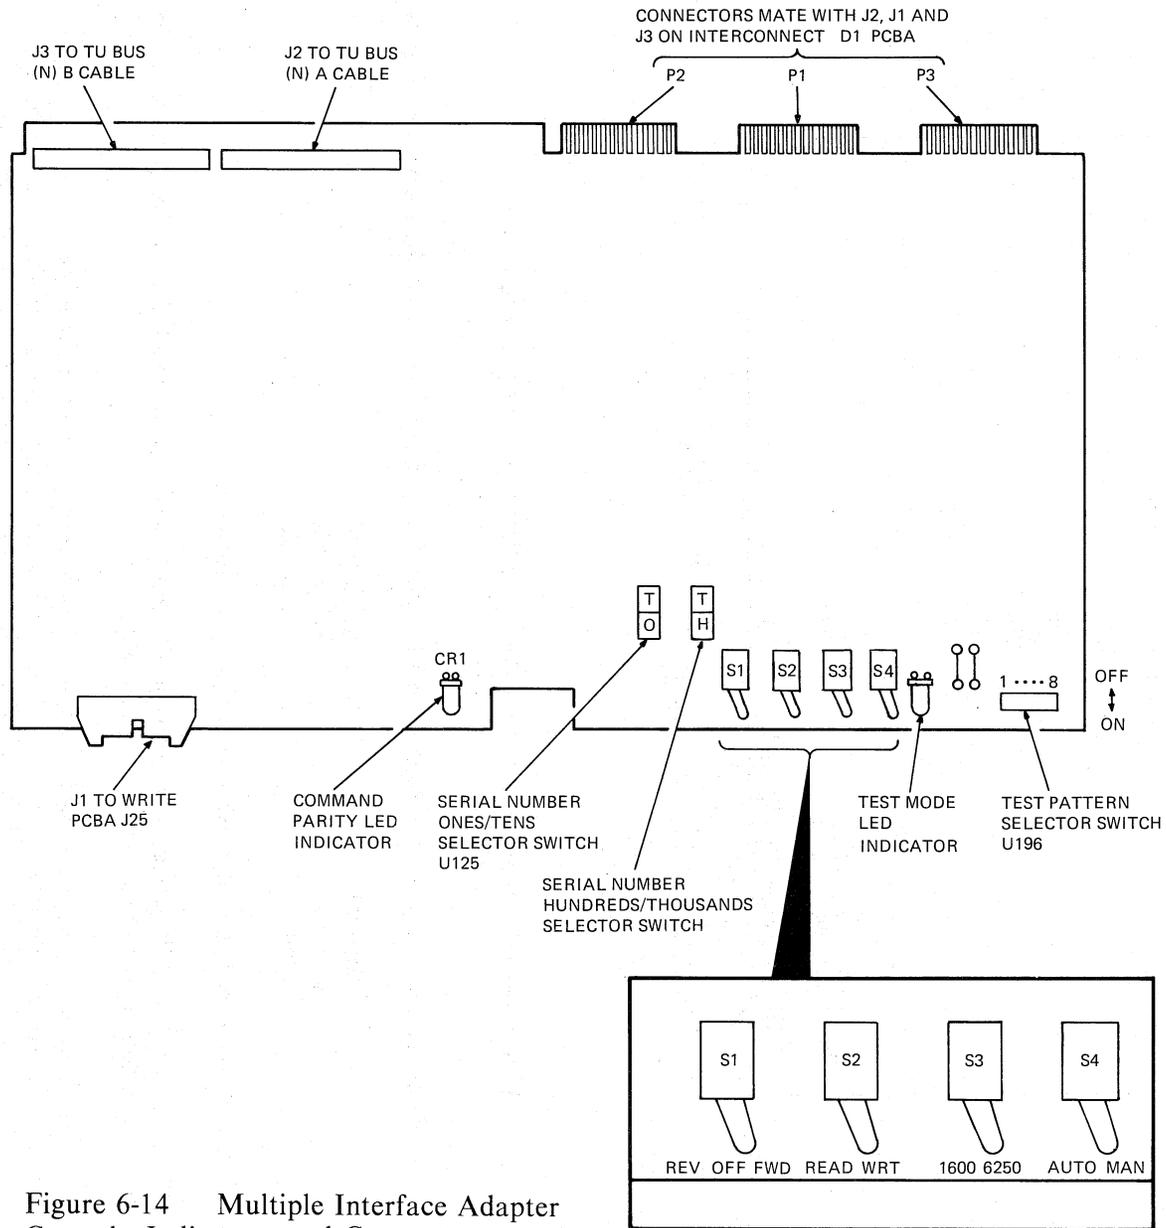

Figure 6-14 Multiple Interface Adapter Controls, Indicators, and Connectors
2. Set MIA PCBA maintenance switches (Fig. 6-14) as follows: